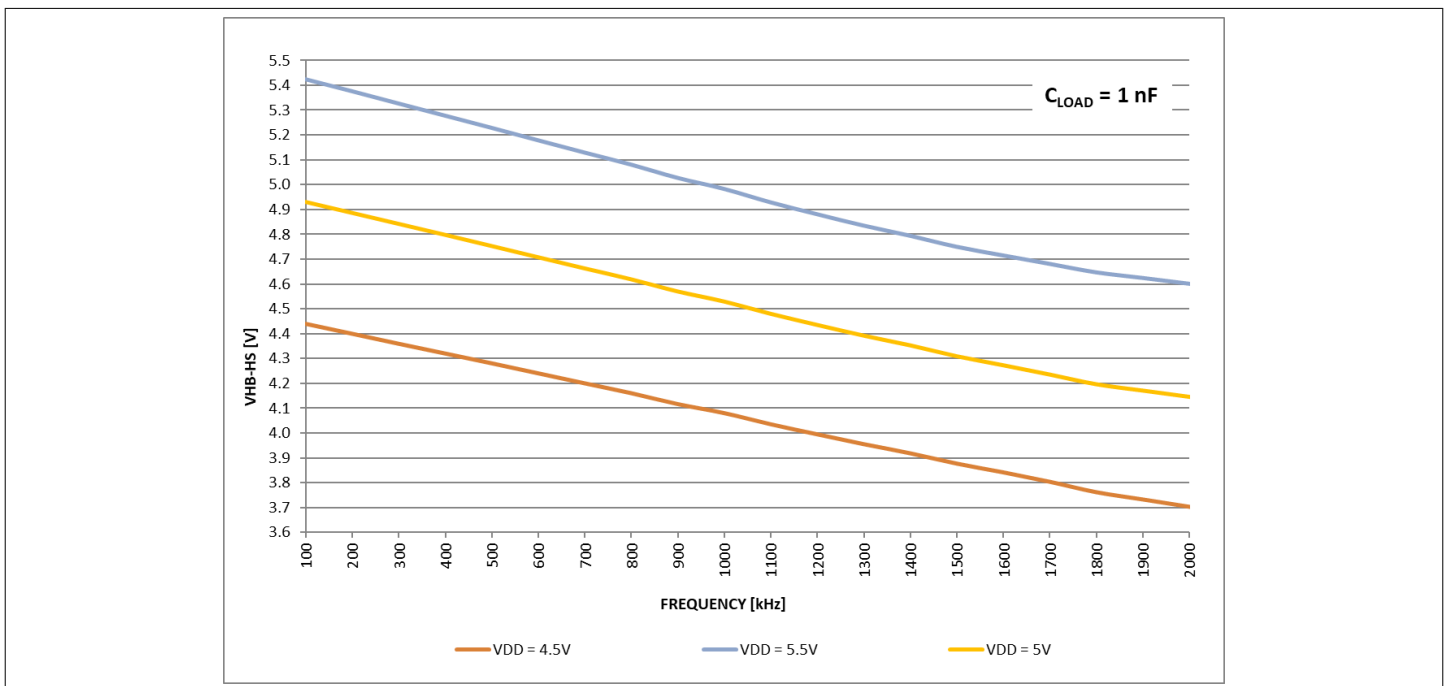

Figure 29 Bootstrap capacitor voltage (V_{HB-HS}) vs. switching frequency (F_{SW})
The 2EDL50X3U2D has an integrated bootstrap switch for charging the bootstrap capacitor. The 2EDL5013U2D has an active bootstrap clamp feature to avoid overcharging the bootstrap capacitor. Therefore, it is not recommended to use an external bootstrap diode if this feature is needed unless there is an external circuit that can regulate the bootstrap capacitor voltage. If an external bootstrap diode is needed in the application such as when operating at very high switching frequency or with large high-side gate charge requirement, a fast recovery or Schottky diode with low forward voltage drop is recommended in order to minimize the losses and leakage current. It should be chosen such that it can handle the peak transient current from Equation (5) during start-up conditions and the blocking voltage rating should be higher than the maximum input voltage (V_{in}) with enough derating. Figure 29 shows the variation of the bootstrap capacitor voltage against the switching frequency with 1 nF load at different V_{DD} voltage.